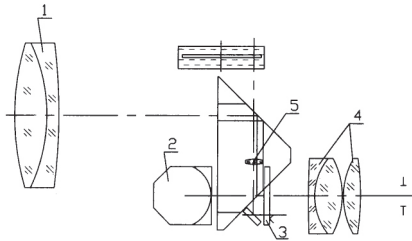

Fig. 1
Basic binocular optical construction, as shown in figure 1, consists of (1) the objective lens, (2) the Porroprisms, (3) the reticle and (4) the eyepiece, Reticle (3) and compass projective system (5) and builtin to the right half of the binoculars body.
The light from the objective or target you are looking at enters the binocular through the Objective lens system (item 1, fig . 1). Due to the objective lens, the rays are converged to an upside-down image. Then the light rays of the image passes through the prism system (known as the Porroprism) (item 2, fig. 1) and are reversed to erect the image at the reticle (item 3, fig. 1). This image is magnified by the eyepieces (item 4, fig. 1), so that the observer can now see the distant object.